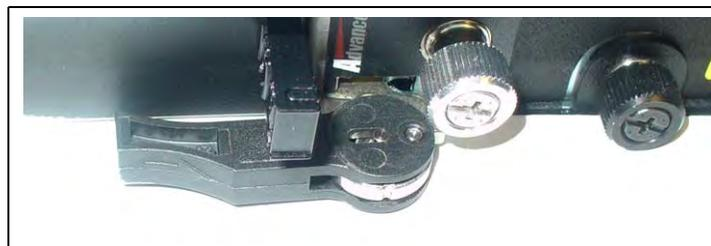

Figure 5.25 - G10 IIC Ejector Handle Closed
- Push and hold the ejector handle in the forward position and rotate it inward until flush with the front of the chassis (Figure 5.25). The IIC Hot Swap LED turns off.